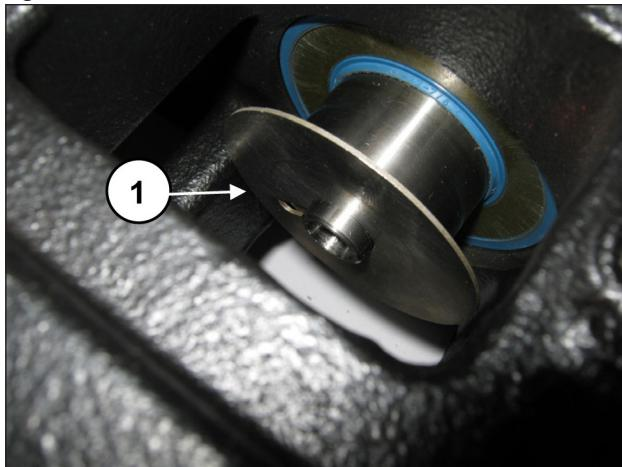

Fig. 182
Position the spray-guard in the piston guide housing (pos. ①, Fig. 182).